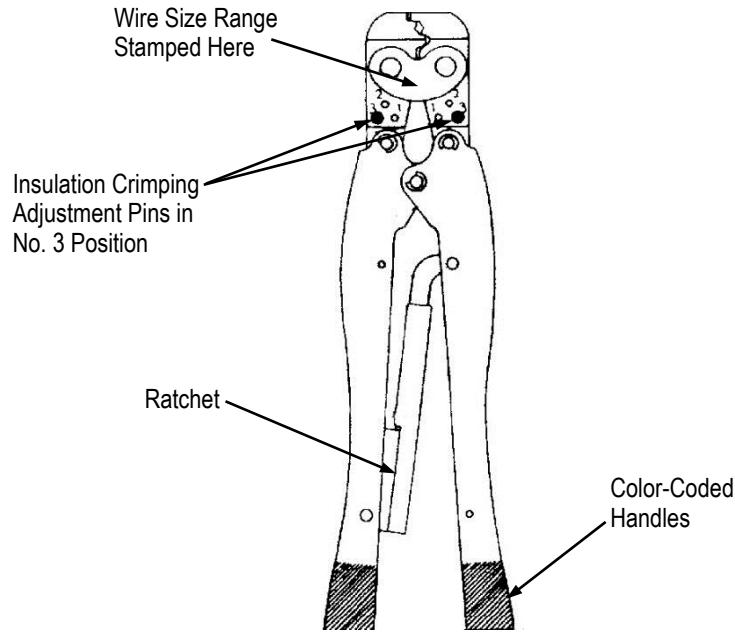

Figure 1
2. Open crimping jaws by closing handles until the ratchet releases. See Figure 1.
Always make certain that both insulation adjustment pins are in the same position. See Figure 1.
1. Insert the insulation adjustment pins in the No. 3 position. See Figure 1.